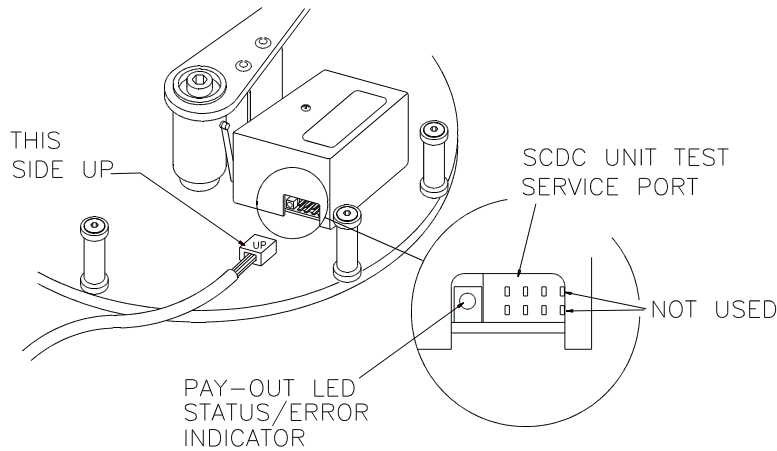

Figure 2
4. Plug the 6 pin connector into the SCDC card next to the Red LED as shown below. The top surface is marked with "UP" for correct orientation (see figure 2). The port on the Rewind card is in the same location as the Pay-Out Card but does not have the black cover.
Note: Only the 6 pins closest to the LED indicator are used on both the Pay-Out and Rewind Cards. (See figures 2 and 3). The remaining two pins are not used.